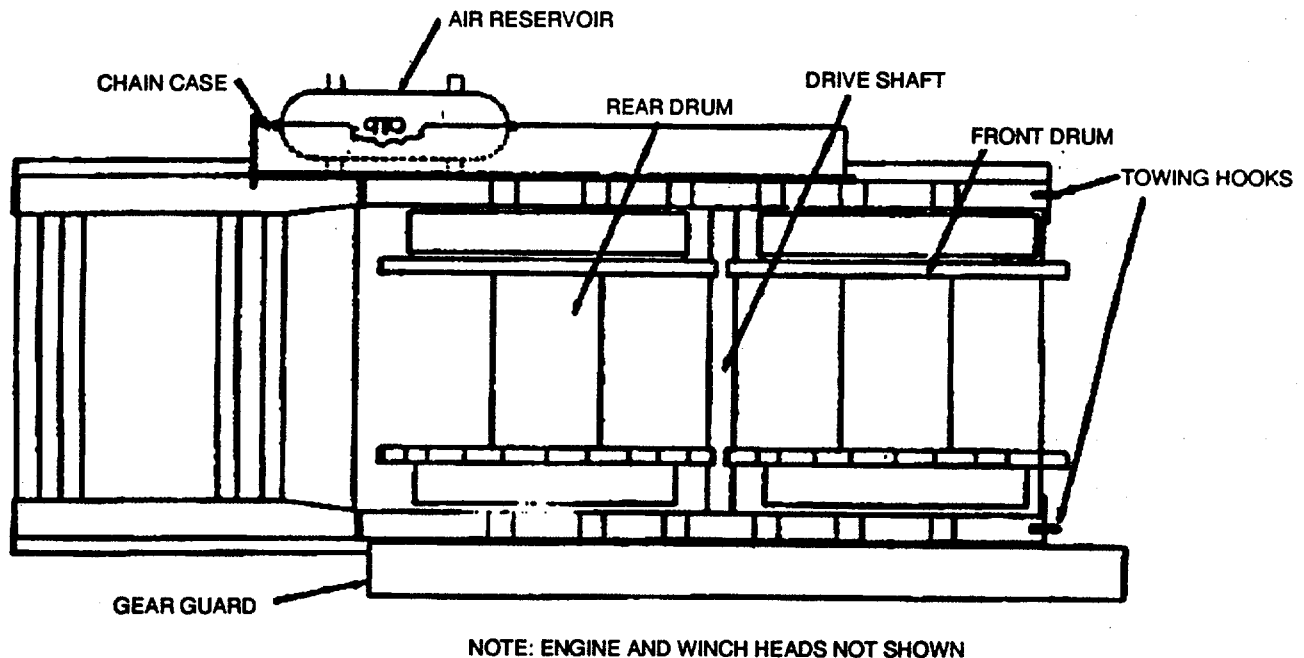

Figure 18-1 . Winch Assembly Top View
**18-3 System description.** The winch mechanism is driven by a Detroit Diesel, 4-71N series, Model 1043-7000, water cooled diesel engine that develops 152 rated HP at 2100 RPM. The winch assembly is constructed of steel with cast iron drums. The main drive shaft and 2 drums are run on tapered roller bearings. The drums are engaged by an air actuated clutch and are equipped with air operated brakes. Refer to figures 18-1 and 18-2 for top and right side views of winch assembly.